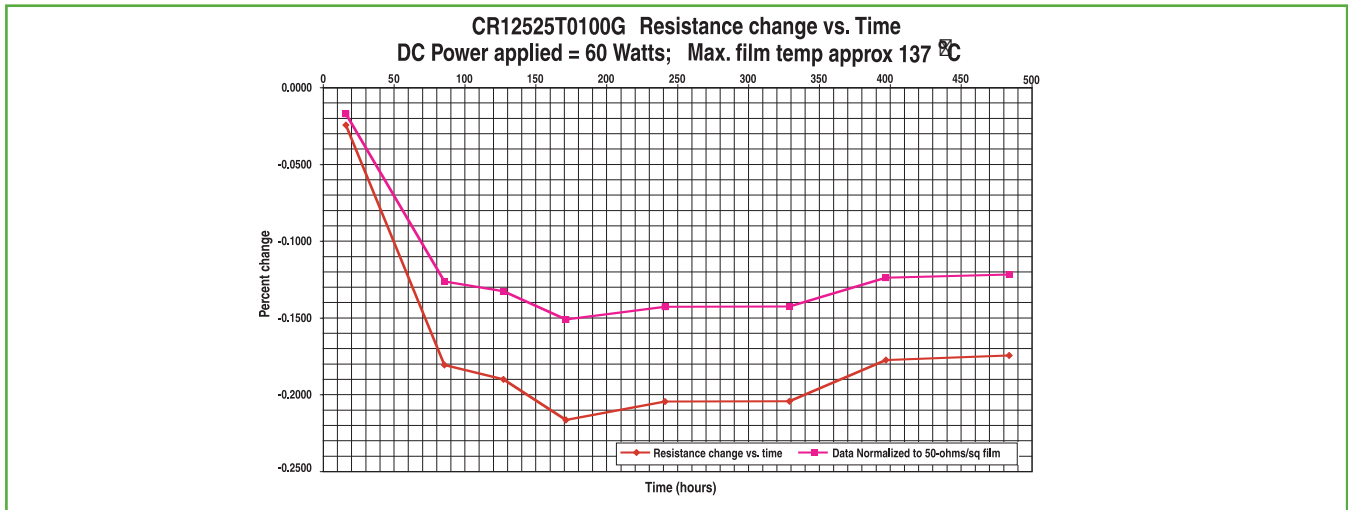

Figure 7: Percent resistance change of TaN resistors with applied DC power
What now of aging effects due to the application of a DC voltage? **Figure 7** shows the average measured change in resistance of three 100-ohm, 60-Watt resistors selected at random from a production run and DC power-aged – this time exactly in accordance with MIL-PRF-55342 – for 490 hours. The top curve shows the raw data; maximum resistance change was about -0.22%. The lower curve shows the data normalized to a 50-ohms/square resistivity, i.e., the resistance change was scaled by the ratio of actual film resistivity, 72 ohms/square, to 50 ohms/square using equation (1). The meaning of the scaling here is ambiguous, since resistance change is now seen to occur as a result of two separate effects: Heating – to which resistivity scaling applies by virtue of (1) – and a DC voltage sensitivity resulting from unknown causes. The latter phenomenon is common in thick films and is believed to result from an agglomeration of small conductive particles, under the application of a DC potential, into lower resistance larger particles. However, a corresponding thin-film mechanism does not seem to be reported in the available literature. Nevertheless, ATC has observed it experimentally on substrates from a number of different vendors and having a variety of surface roughnesses. The salient feature is that this effect causes resistance to decrease with time, whereas thermal effects cause it to increase. We can infer from Fig. 7 that the DC aging effect dominates for the first 170 hours, after which the thermal effect becomes significant. The fact that the two phenomena yield resistance departures in opposite directions helps to generate good results on the Mil spec test – although it must be cautioned that AC-only use could produce greater changes. Absent specific knowledge of customer use, ATC performs its standard aging test with DC applied per the Mil spec.